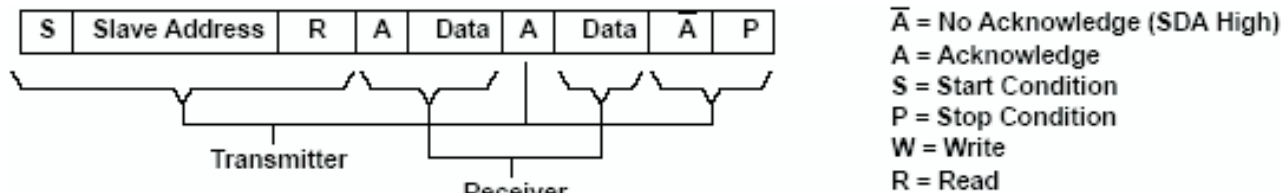
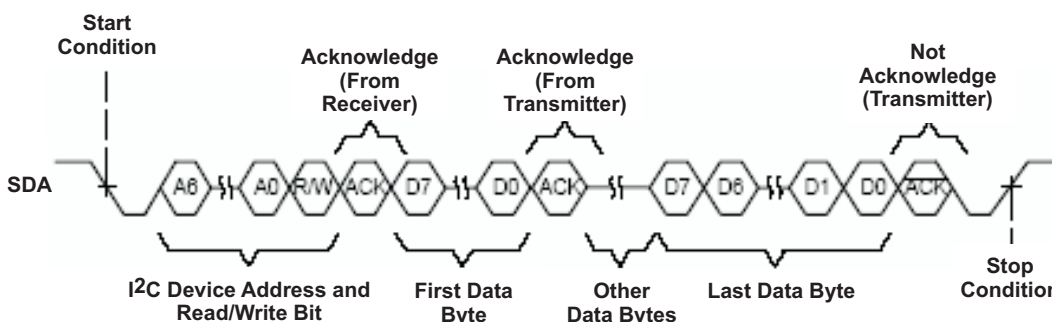

Figure 35. I2C Read Cycle
Figure 36. Multiple Byte Read Transfer
address. Following this initial acknowledge by the slave, the master device becomes a receiver and acknowledges data bytes sent by the slave. When the master has received all of the requested data bytes from the slave, the not acknowledge (A) condition is initiated by the master by keeping the SDA signal high just before it asserts the stop (P) condition. This sequence terminates a read cycle as shown in Figure 35 and Figure 36. See Example – Reading from the SN75DP122 section for more information.
The SN75DP122 operates using a multiple byte transfer protocol similar to Figure 36. The internal memory of the SN75DP122 contains the phrase DP-HDMI ADAPTOR<EOT> converted to ASCII characters. The internal memory address registers and the value of each can be found in Table 3.